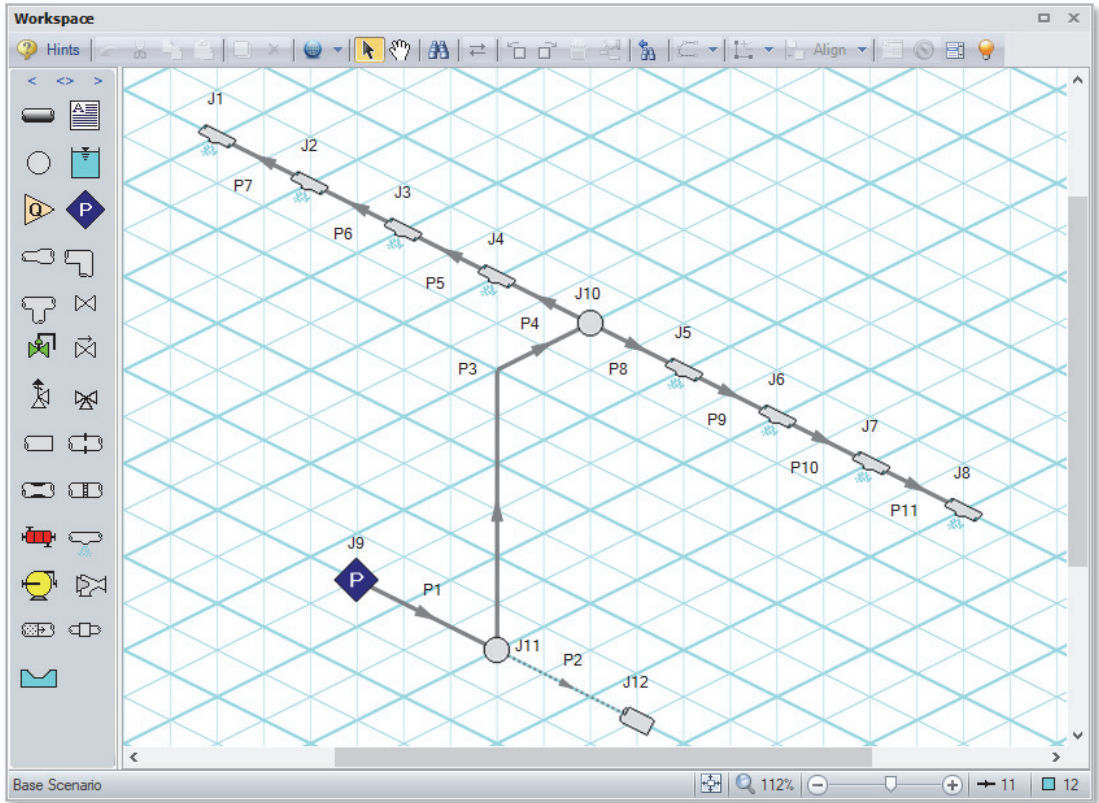

Figure 3.9 Spray discharge system with the isometric grid shown
At times it may be convenient to demonstrate the three-dimensional nature of a system. For example, if you are building a model based on isometric reference drawings. AFT Fathom includes an Isometric Pipe Drawing Mode for these cases. The isometric grid has three gridlines that are offset by 60° , representing the x, y, and z axes. Figure 3.9 shows the spray discharge system built on an isometric grid.
10. Draw Pipes 1 and 2, as shown in Figure 3.9.
12. Draw Pipes 4-11, as shown in Figure 3.9.